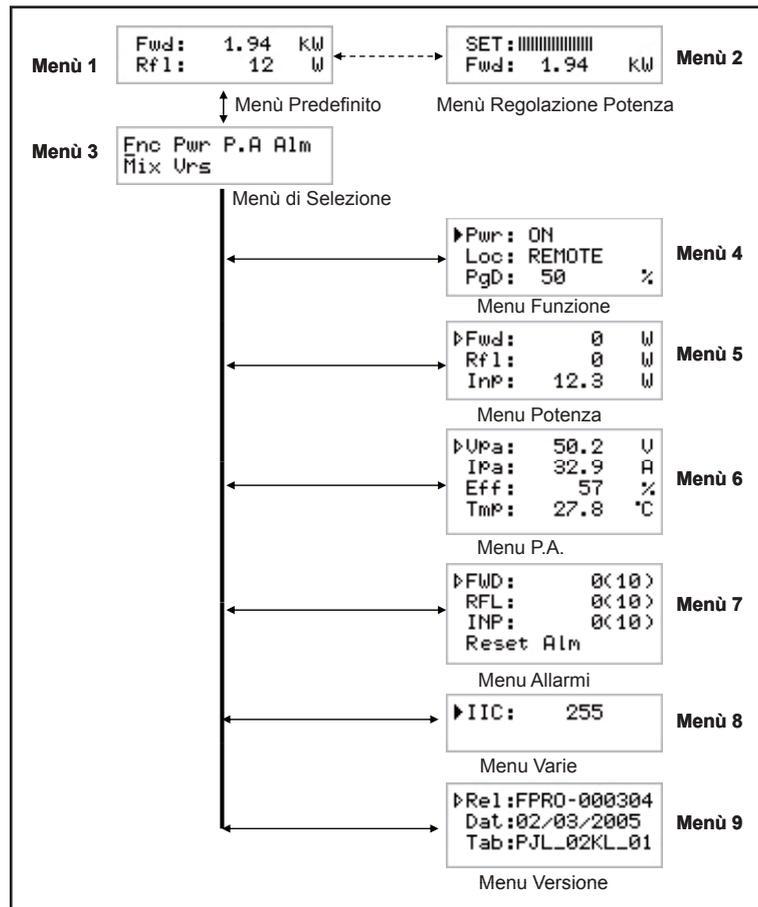

Figure 5.2
**The diagram of RF connection and control between the amplifier and its exciter and connection with the load, is represented in Figure 5.2.**
Ensure that the **ON** light turns on. Machine name should appear briefly on the display, quickly followed by forward and reflected power readings (figure 5.2 - menu 1). If RF output is disabled, these readings will be zero.
Check current mode setting and enable **Local mode** (if not already enabled) following menu path **Fnc** ⇒ **Loc** ⇒ **Local** (figure 5.2): if left disabled, the machine will not accept the next commands.
Check current **RF** output setting and enable output (if not already enabled) following menu path **Fnc** ⇒ **Pwr** ⇒ **ON** (figure 5.2 - menu 4).
Check output power level and set to maximum level (if not already set to maximum) from the Power Setup Menu, which you can call up by pressing these keys in the order: **ESC** (opens **Default Menu**) ⇒ **ENTER** (hold down for 2 seconds) ⇒ **SET** ⇒ use key to set bar to maximum limit (figure 5.2 - menu 2).
Open the **Power setup menu** (figure 5.2 - menu 2) pressing the following keys in the order:
The machine features an LCD with two lines by 16 characters that displays a set of menus. Figure 5.2 below provides an overview of machine menus.